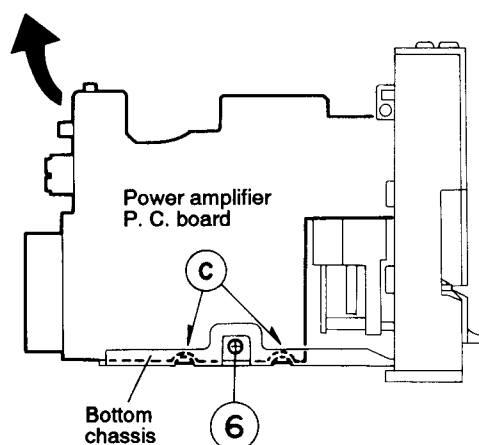

Fig. 5-10
7. Remove the one screw **6** retaining the power amplifier P. C. board (See Fig. 5-10).
9. After removing the power amplifier P. C. board from the key way **c** on the bottom chassis, take this P. C. board out while raising in the arrow direction (See Fig. 5-10).